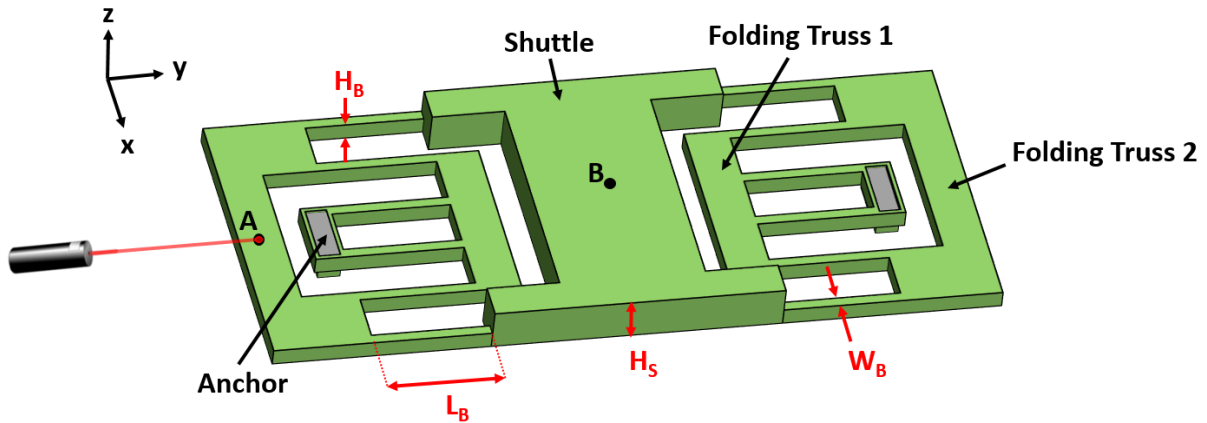

Figure PS1.1
- Figure PS1.1 below presents the perspective view of a mass suspended above the substrate by folded-flexure support beams, with anchors to the substrate at the points indicated. The entire structure, including the mass and all its supports, consists of a single structural material. Table PS1.1 lists some useful material properties and structural dimensions. For this problem, assume that the mass and all folding trusses are rigid in all directions, including the vertical (i.e., z) direction, and ignore gravity for simplicity. You may also assume that the structure is operating in vacuum and the substrate temperature is 25°C .